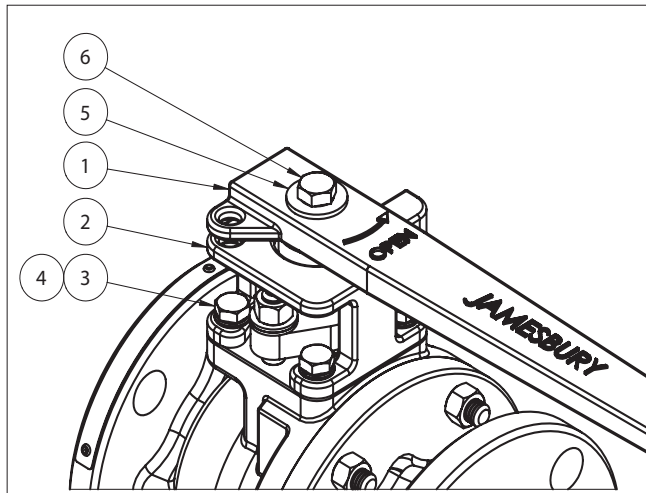

Figure 11. Handle Assembly
2. Lower the handle bracket (2) straight down in line with the valve stem until it is flat on the valve bonnet, and all four mounting holes align with tapped holes on the valve (see **Figure 11**).
- NOTE:** Positive stop feature on handle bracket (2) should be forward, towards the body cap.
3. Insert the four bracket screws (3) and lock washers (4) into the mounting holes and thread into the valve until finger tight only.
4. Aligning the slot in the handle with drive on the stem, lower handle (1) straight down in line with the valve stem until it is completely engaged. If the handle (1) interferes with the handle bracket (2) rotate the handle bracket slightly to remove interference. DO NOT rotate stem!